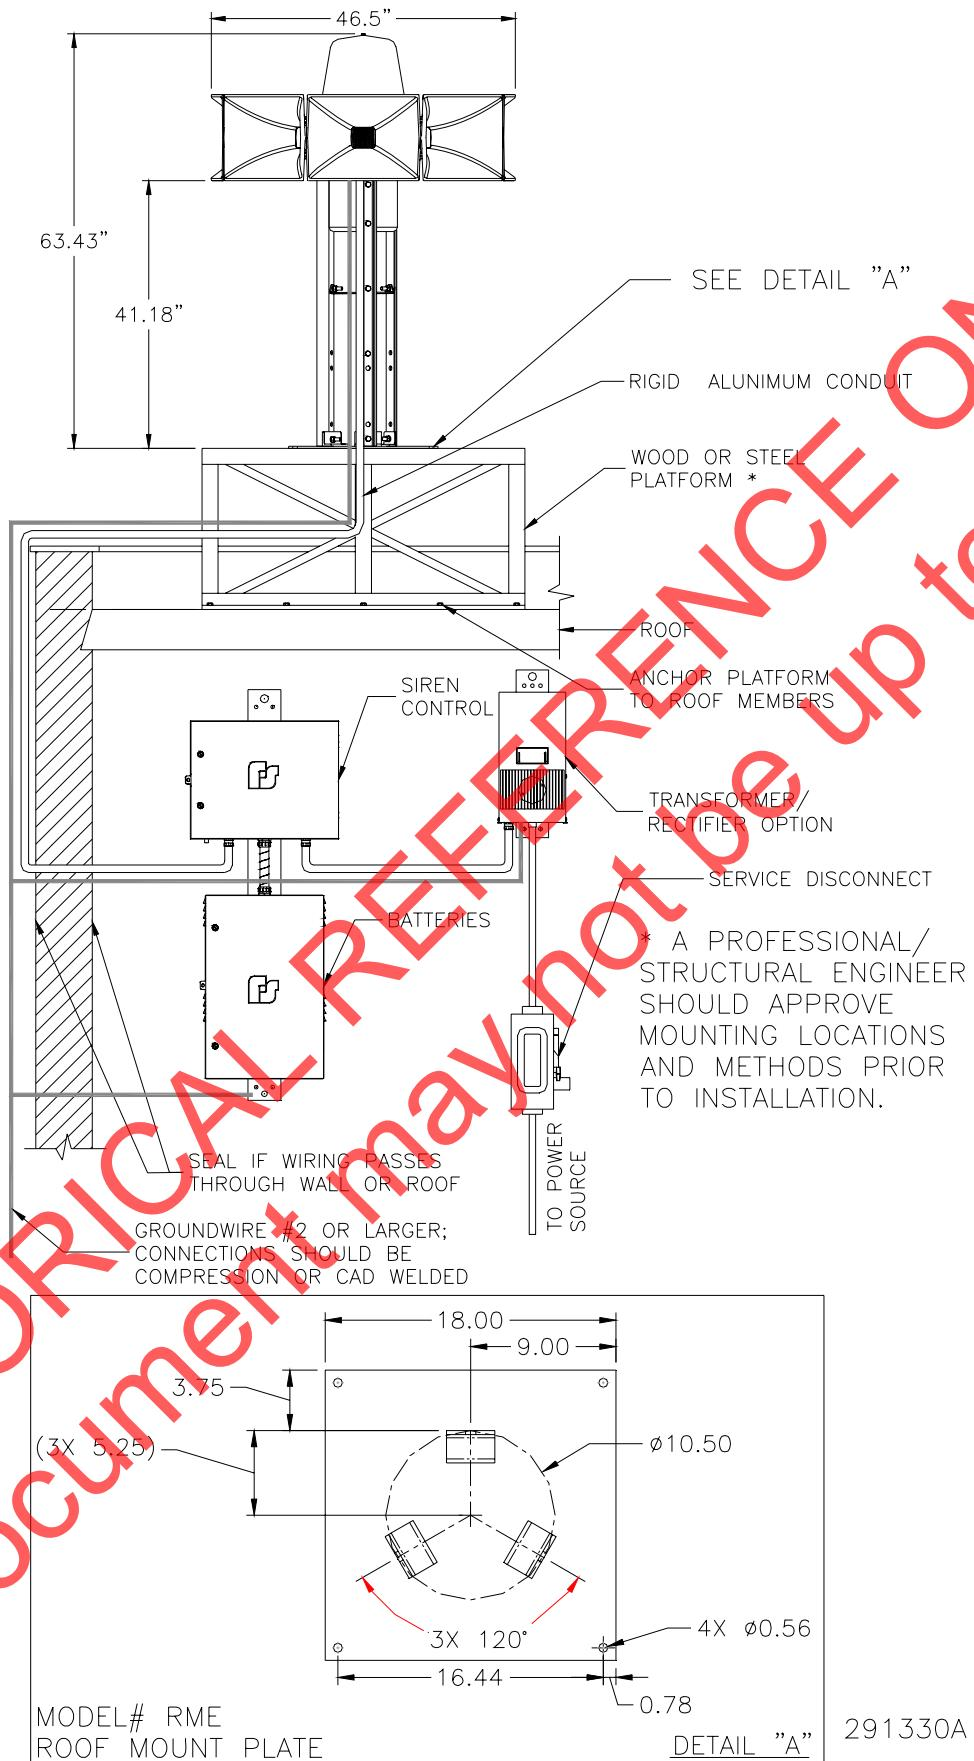
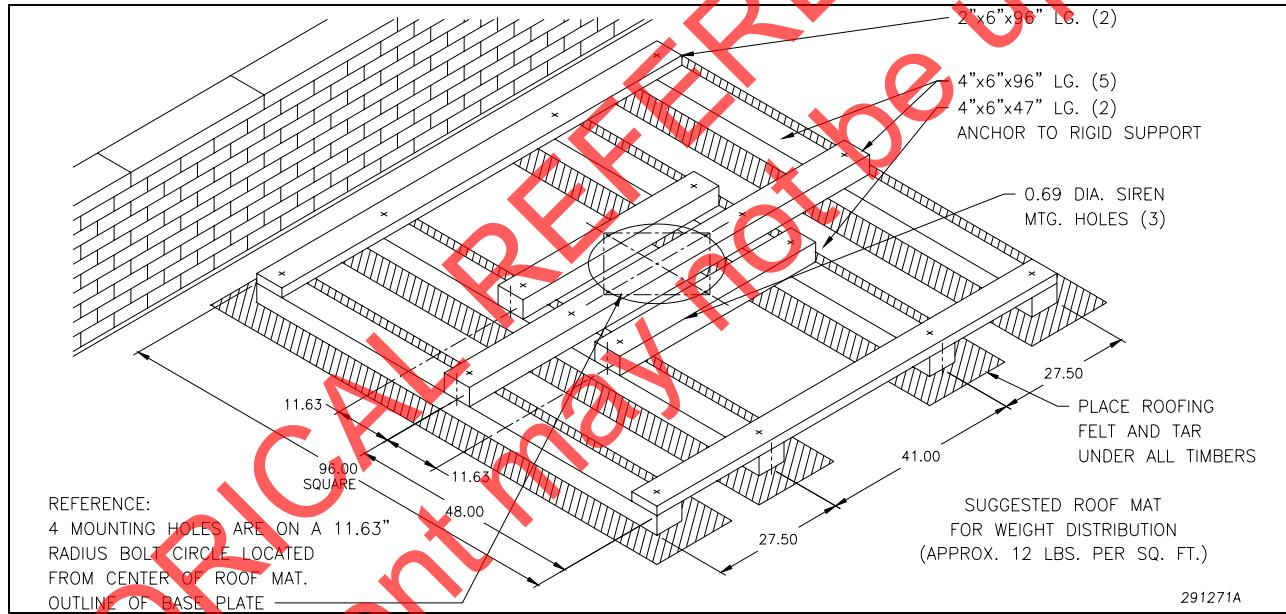

Figure 3-4. Typical Surface-mounted Siren Installation
Figure 3-5. Weight Distribution Mat Construction
| Figure 3-4. Typical Surface-mounted Siren Installation ..... | 9    |
A model RME mounting plate is required for mounting on flat surfaces such as a building or top plate of a steel or concrete pole. This installation configuration is practical for buildings that have a flat roof. The siren can be anchored directly to the roof, on a platform as shown in figure 3-4, or on a weight distribution mat like the one shown in figure 3-5.
A mat is required when the siren mounting surface is unable to support at least 280 pounds (127kg.) over a 1.5 square foot area. The mat shown in figure 3-5 distributes the siren weight over an 8 square foot area. When installing the siren on a flat roof, be sure that it clears the parapets or other obstructions by at least ten feet.
3. Anchor the siren to the mounting surface with 1/2" lag bolts or nuts and bolts, as appropriate through the mounting holes (one in each corner) in the siren base plate (see figure 3-4, detail A). If the siren is mounted directly on a roof, (without a platform or weight distribution mat) be sure to install waterproof joints at the points where the mounting bolts pass through the roof so that water does not enter the building.